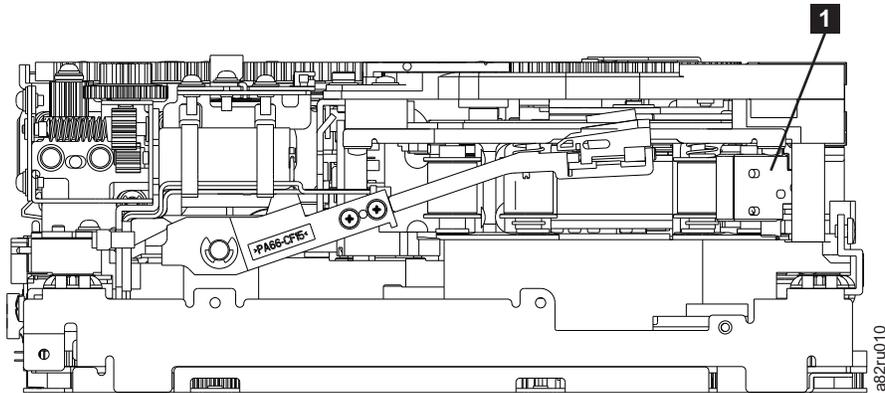

Figure E-15. Leader Block Assembly (LBA)
9. Rotate the threader motor worm gear ( **4** in Figure E-14 on page E-15) to turn the threader mechanism gear ( **6** in Figure E-14 on page E-15) counterclockwise. This moves the LBA out of the cartridge and past the read/write head. Stop this rotation when the LBA is near the tape guide roller nearest the rear of the drive shown as **1** Figure E-15.